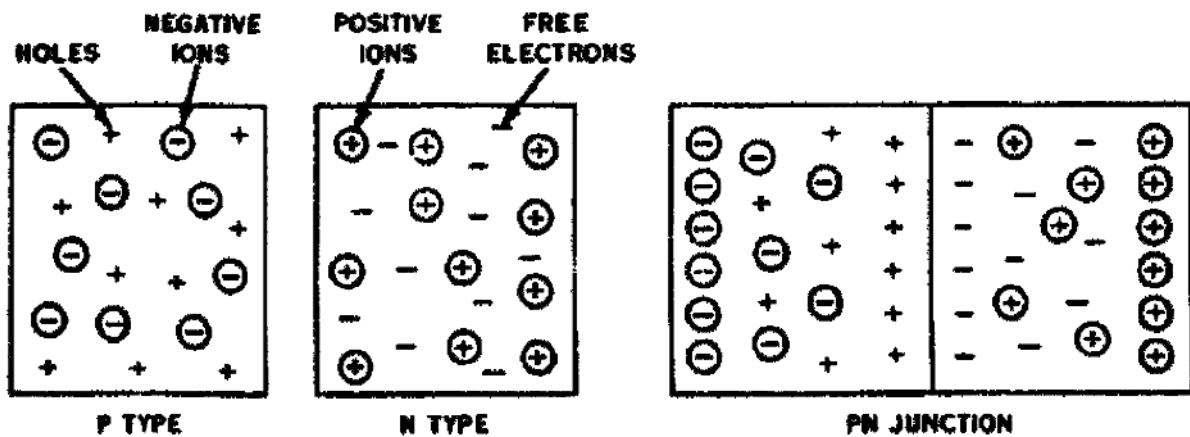

Figure 108. P-N junction.
11. **P-N Junctions.** When N-type and P-type germanium are combined in a single crystal, an unusual but very important phenomenon occurs at the surface where contact is made between the two types of germanium. The contact surface is referred to as a P-N junction, shown in figure 108.